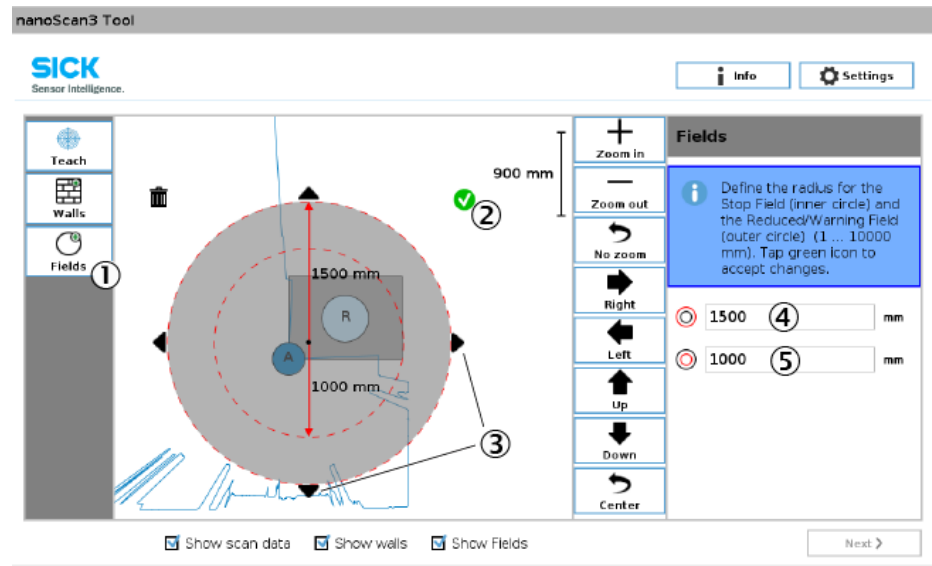

Figure 14: Drawing fields manually
3. Use the displayed tools to configure the circles as desired and confirm by ticking the check mark (see figure 14).